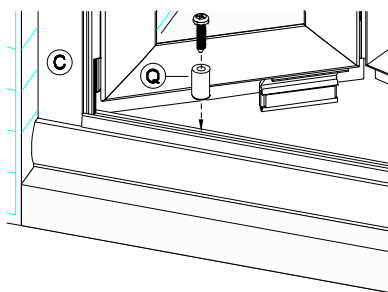

figure 9
14. The purpose of Door Stop (Q) is to prevent the Door Panels from hitting upon themselves. Using the pre-drilled pilot hole in the Guide Track's bottom, secure Door Stop (Q) to the Guide Track with one(1) Door Stop Screw (R) as shown in figure 9.